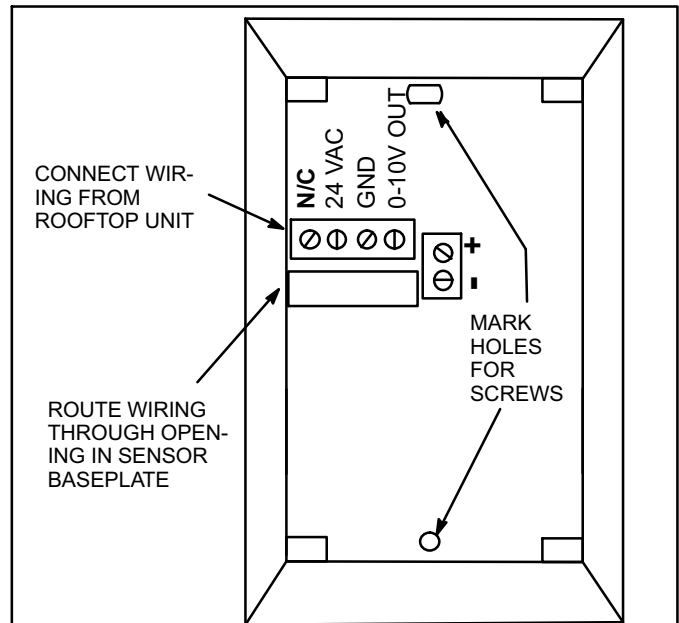

Figure 4. Wall-mount Sensor Baseplate
4. Mark holes for screws (see figure 4). Remove baseplate and drill holes.